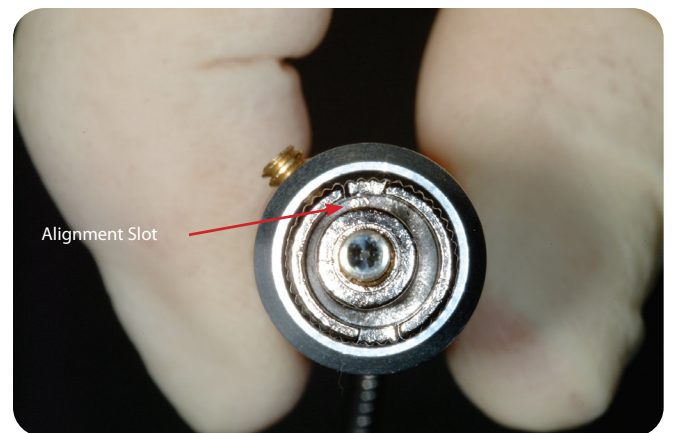

Figure 3.14 Alignment Slot - Frontal View
- Be careful to align the slot on the fiber end with locking hub aperture. (FIGURE 3.14)